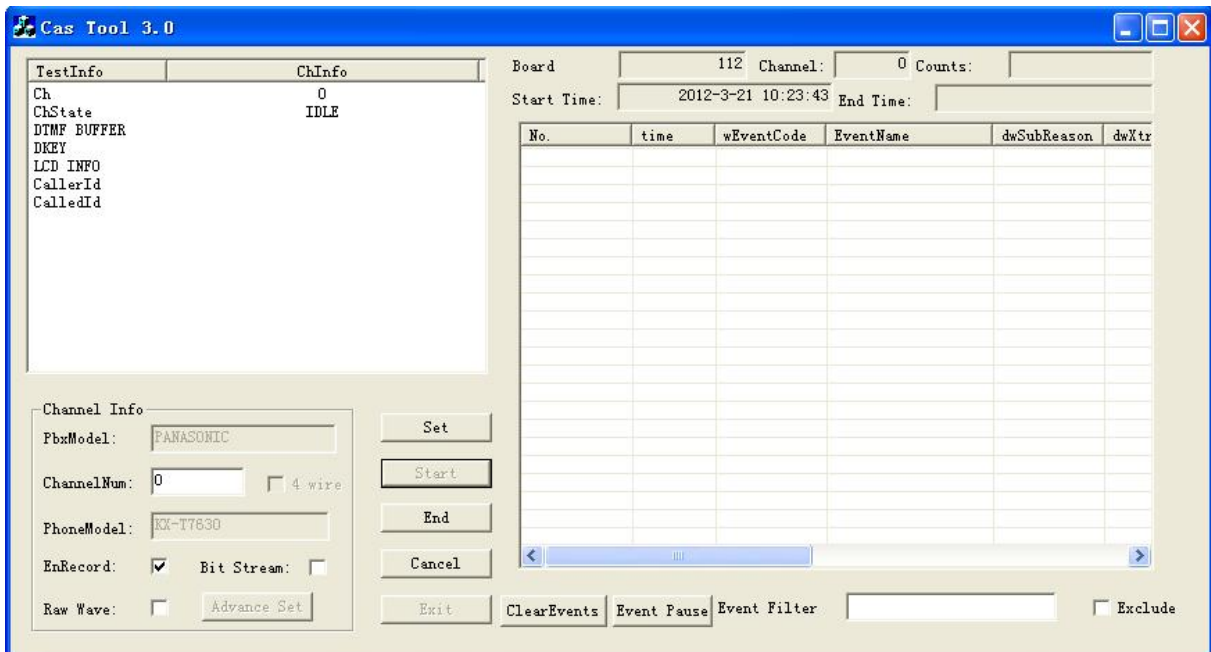

Figure 2-8
Step 8: Click on 'Start' and enter the interface as shown in Figure 2-8.